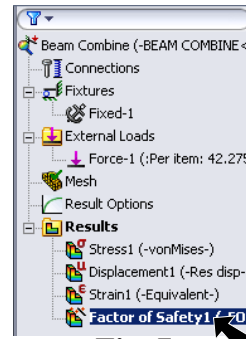

Fig. 7
Step 1. Double click **Factor of Safety1** twice in the Simulation Study Tree to display the Factor of Safety1 plot, **Fig. 7**.